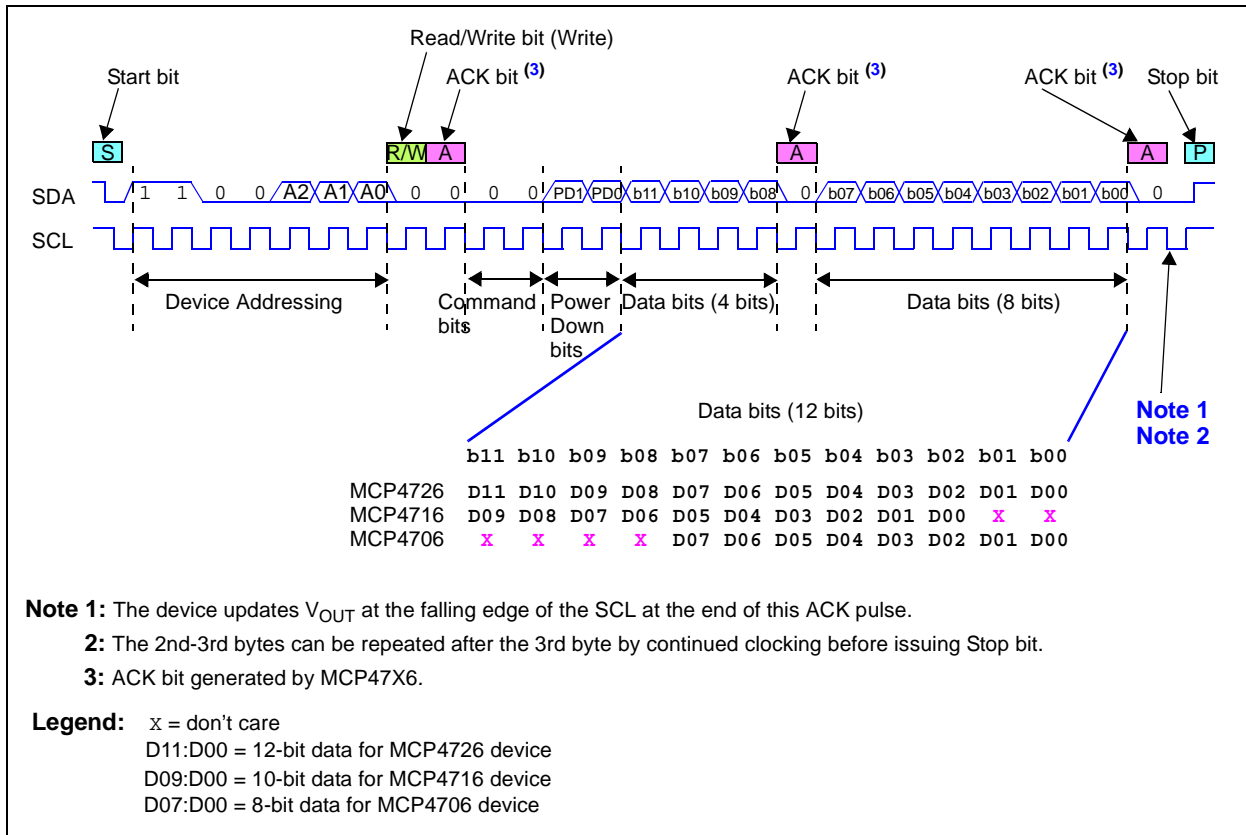
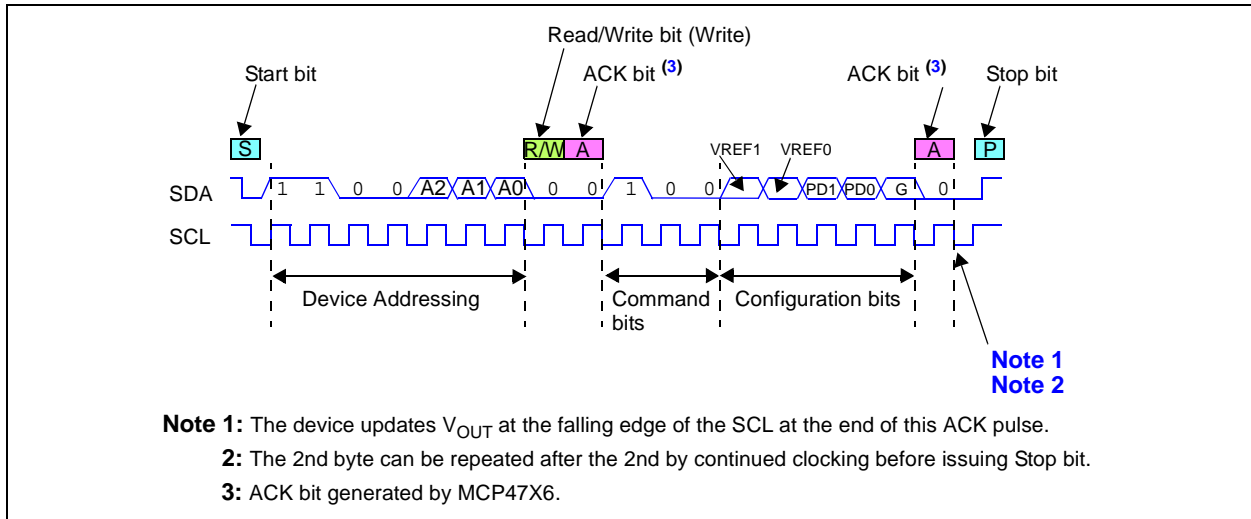

FIGURE 6-1: Write Volatile DAC Register Command.
FIGURE 6-4: Write Volatile Configuration Bits Command.
- Note 1:** These bits are the MSb of the 2nd byte in the I²C Write command. See Figure 6-1 to Figure 6-4.
Figure 6-1 shows an example of the command format, where a Stop bit completes the command.
This Write command is used to update the volatile Configuration register bits only. This command is a quick method to modify the configuration of the DAC, such as the selection of the resistor ladder reference voltage, the op amp gain, and the power-down state. Figure 6-4 shows an example of this Write command.